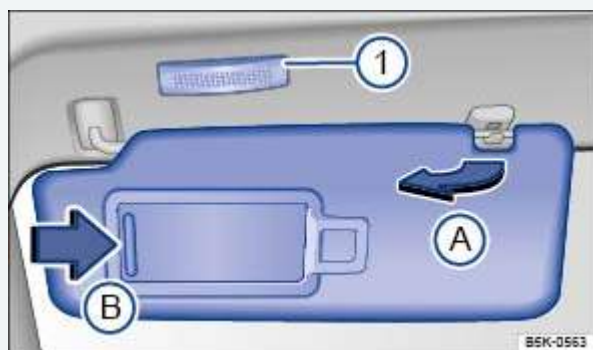

Fig. 88 In the headliner: Sun visor.
- Lift it out of the retaining clip  $\Rightarrow$  Fig. 88④ and swivel it over toward the door.
A vanity mirror is behind a cover in the sun visor. Your vehicle may also be equipped with a light  $\Rightarrow$  Fig. 88① that comes on when you slide the cover ② open.